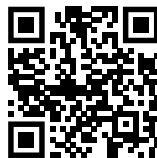

Fig. 145
- ▶ Aprire la Liebherr SmartMonitoring Dashboard. (vedere Fig. 145)